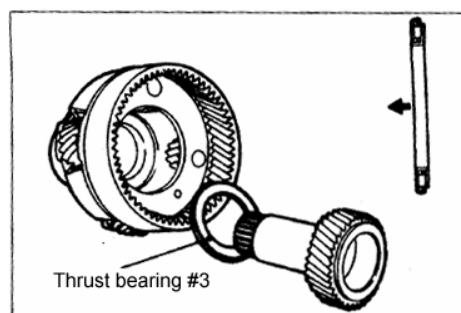

Fig 11A-78
- (24) Install the parking roller bearing, and then install two parking roller support bearings. See Fig.11A-77。
- (25) Install the underdrive sun gear and thrust